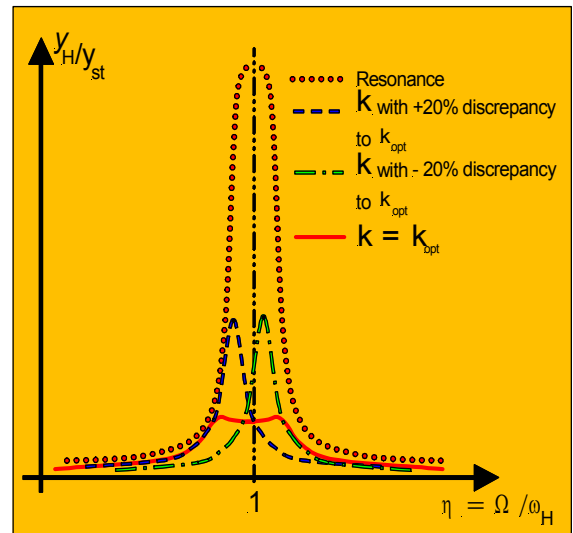

Fig. 6: Behaviour of main system if deviation varies
- Frequency:** To achieve the best possible mitigation of the main system vibration, the natural frequency of the TMD has to be calculated in a certain ratio to the natural frequency of the main system, means both frequencies must not be identical. The ratio between them is called deviation κ or to be out of tune respectively (Fig. 6).